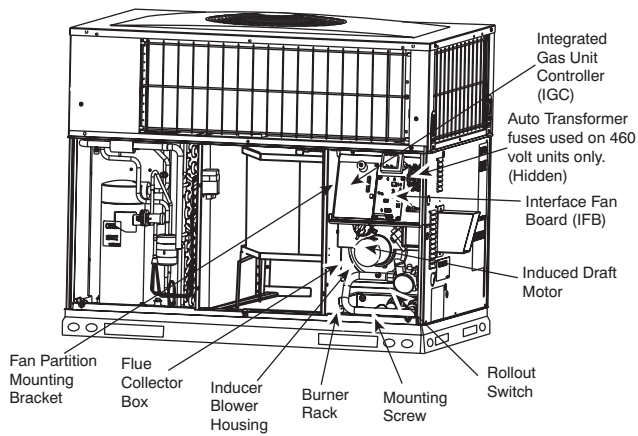

Fig. 20 - Blower Housing and Flue Collector Box
2. Remove the 11 screws holding the flue collector box cover (See Fig. 20) to the heat exchanger assembly. Inspect the heat exchangers.
Unit is equipped with a direct spark ignition 100 percent lockout system. Ignition module (IGC) is located in the control box (See Fig. 20). Module contains a self-diagnostic LED. During servicing, refer to label diagram or Table 6 in these instructions for LED interpretation.
5. Remove fan partition mounting bracket (2 screws located on the left side of control compartment on the fan partition panel). Slide bracket forward, bottom first, to remove. (See Fig. 20.)
7. Remove the mounting screw that attaches the burner rack to the unit base (See Fig. 20).
8. Partially slide the burner rack out of the unit (see Fig. 20 and 23). Remove ignitor and sensor wires at the burner assembly. Remove wires to rollout switch.
9. Slide the burner rack out of the unit (See Fig. 20 and 23).